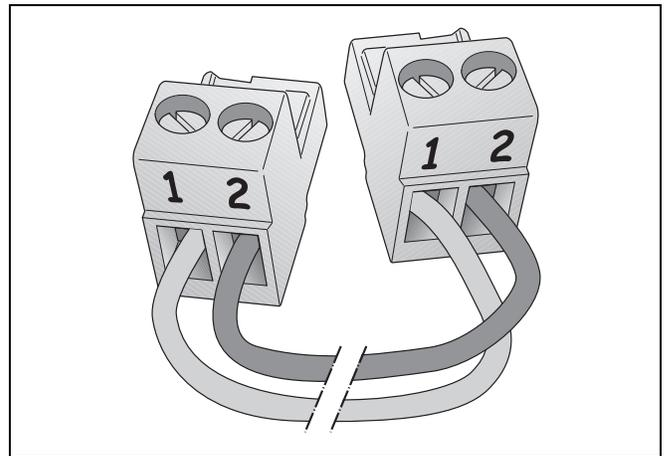

Fig. 40 EMS bus polarity
- Make an EMS bus connection cable using a 2-core cable and the connector enclosed with the module (fig. 40). **Important:** Use the connector of the same color as the connections on the module.